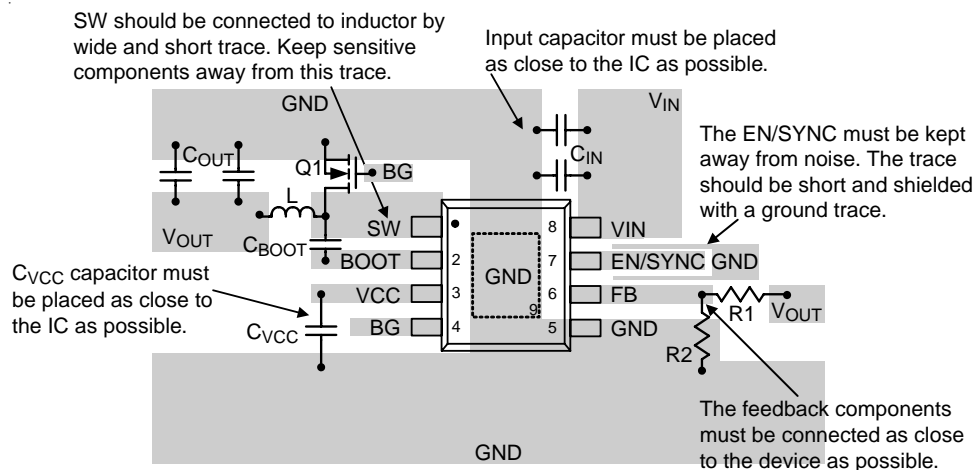

Figure 9. PCB Layout Guide for SOP-8 (Exposed Pad)
- ▶ An example of PCB layout guide is shown in Figure 9 and Figure 10 for reference.